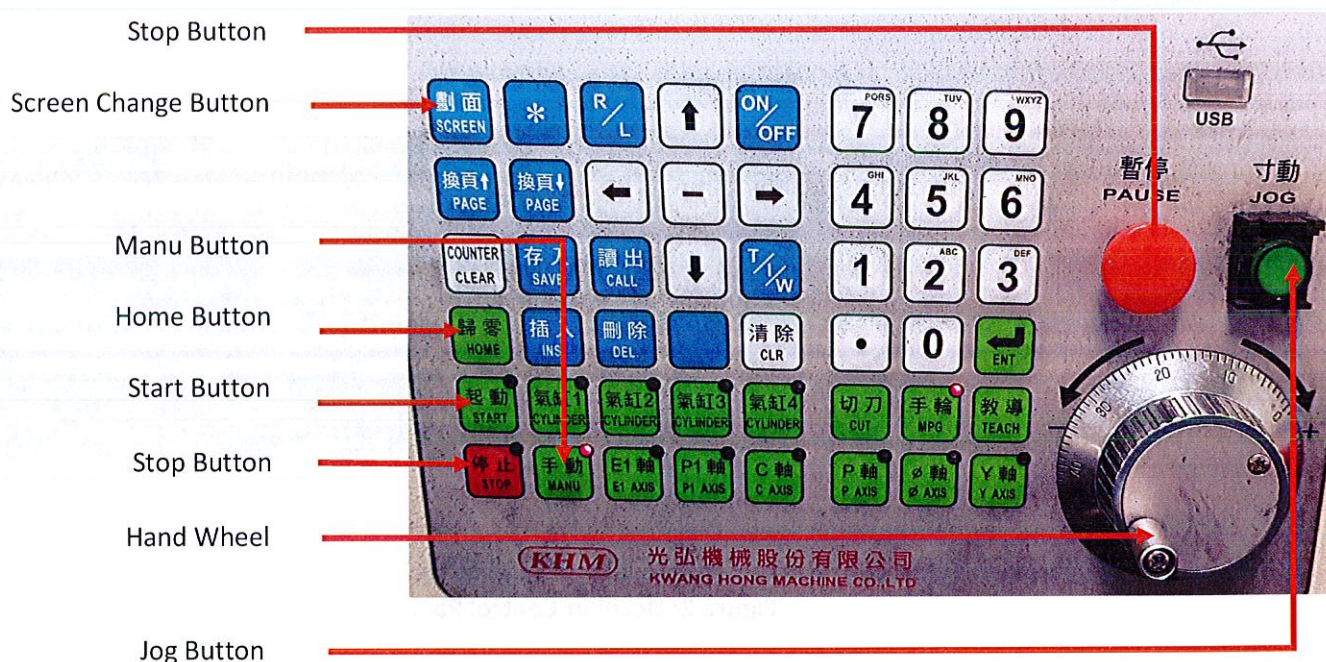

Figure 4: Computer Control Board
6.3. Highlighted in figure 4 are the controls required to operate the machine to produce a spring when the component is already set up.
- Press the screen change button (Figure 4) until you find the program editing screen